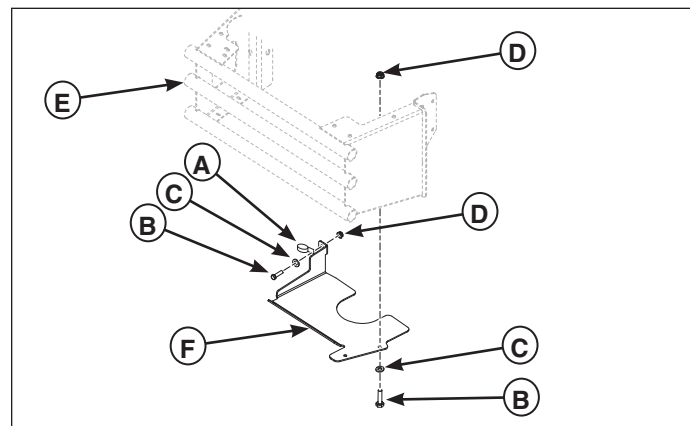

Figure 3. Removing the Lower Belt Guard
3. Remove the 5/16-18 X 3/4 bolt, 5/16 gr. 9 washer and 5/16-18 nylon flange nut that secures the hood to the lower belt guard (**F**, **Figure 3**). Discard the 5/16-18 nylon flange nut.
7. Remove the two (2) 5/16-18 X 1" bolts, 5/16 SAE washers and 5/16-18 hex nuts from the lower belt guard (**F**) and the bumper (**E**). Discard the two (2) 5/16-18 hex nuts